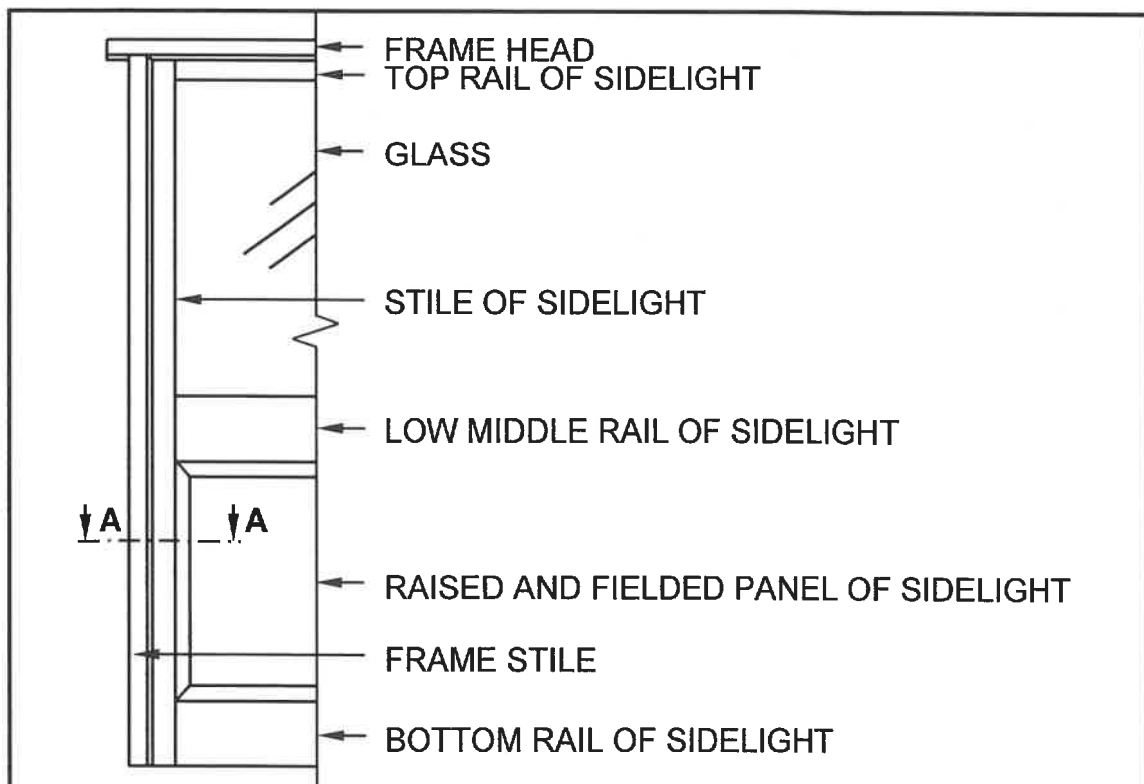

FIGURE 6.6
- 6.6 FIGURE 6.6 below shows a part of the front elevation of an entrance door with a fixed sidelight fitted in a door frame.